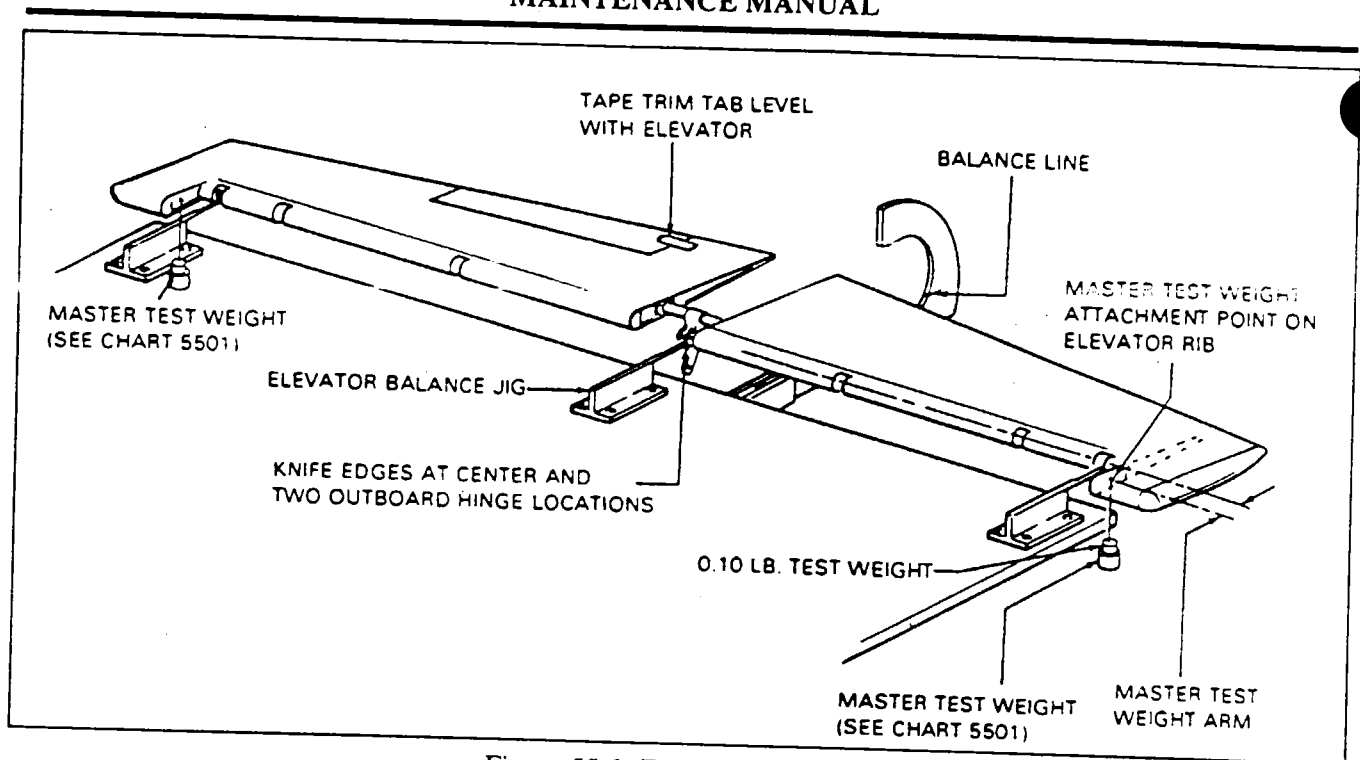

Figure 55-2. Elevator Balancing
ELEVATOR BALANCING PROCEDURE. (Refer to Figure 55-2.)
4. Hang the fabricated master test weight in the tool hole of the elevator counterbalance rib assembly, on both sides. Check the master test weight arm location as shown on Figure 55-2 and specified in Chart 5501.